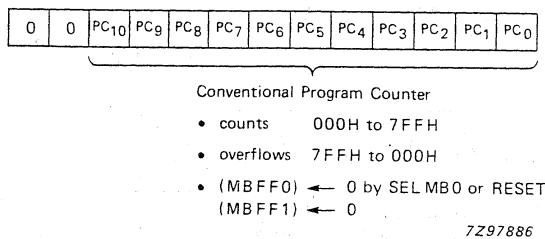

Fig. 17 Program counter.
**Program counter** (see Fig. 17).
A 12-bit program counter is used to facilitate 8 K bytes of ROM being addressed. The arrangement of the bits is shown in Figure 17. During an interrupt subroutine PC11 and PC12 are forced to logic 0. All 12 bits are saved in the stack during CALL and interrupt routines.